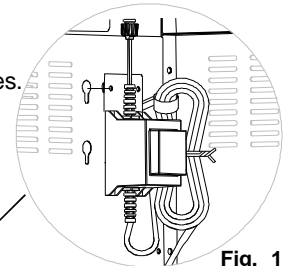

Fig. 1
- Attach the Transformer to the Left Cart Side Panel/Trim Plate by inserting the two stud bolts on the transformer bracket into the two key holes on the side panel as shown. Press the Transformer downward until it rests in place. (See Fig. 1).
- Install the 6 Pan Head Screws 3/16"x1/2" half way. Place the Rear Trim Panel onto the 6 half-installed Screws. Press the Rear Trim Panel downwards until it rests in place (see Fig. 1 & Fig. 2). Next, insert the 2 Phillips Head Screws 1/4"x1/2" (see "B") and tighten all Screws securely.